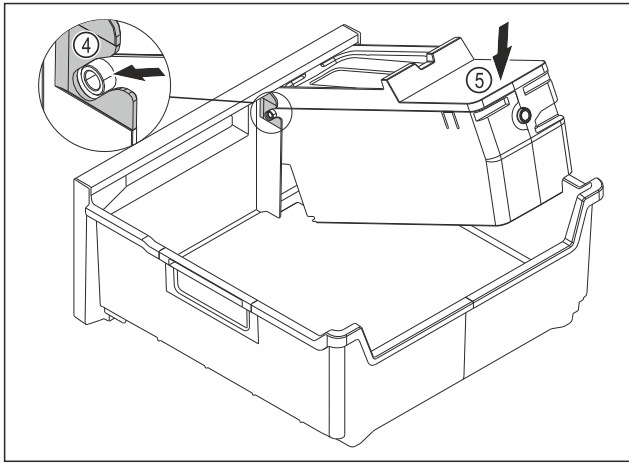

Fig. 216
- ▶ Installing the EasyTwist-Ice body: Push the axes for the EasyTwist-Ice body into the guides Fig. 216 (4).
- ▶ Press the EasyTwist-Ice body Fig. 216 (5) down at the back.